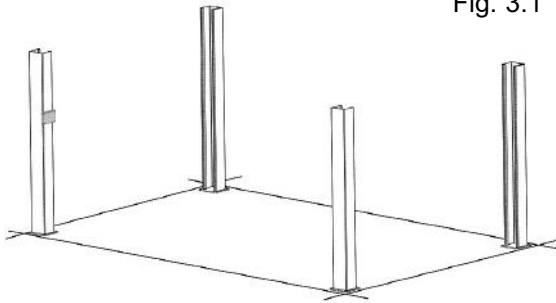

Fig. 3.1
1. Place a chalk line on the floor according to the floorplan layout. Pay attention to the power unit location. Locate and stand the columns at their respective locations. **DO NOT BOLT** columns down at this time. Use caution to prevent the columns from falling over. (See Fig. 3.1)